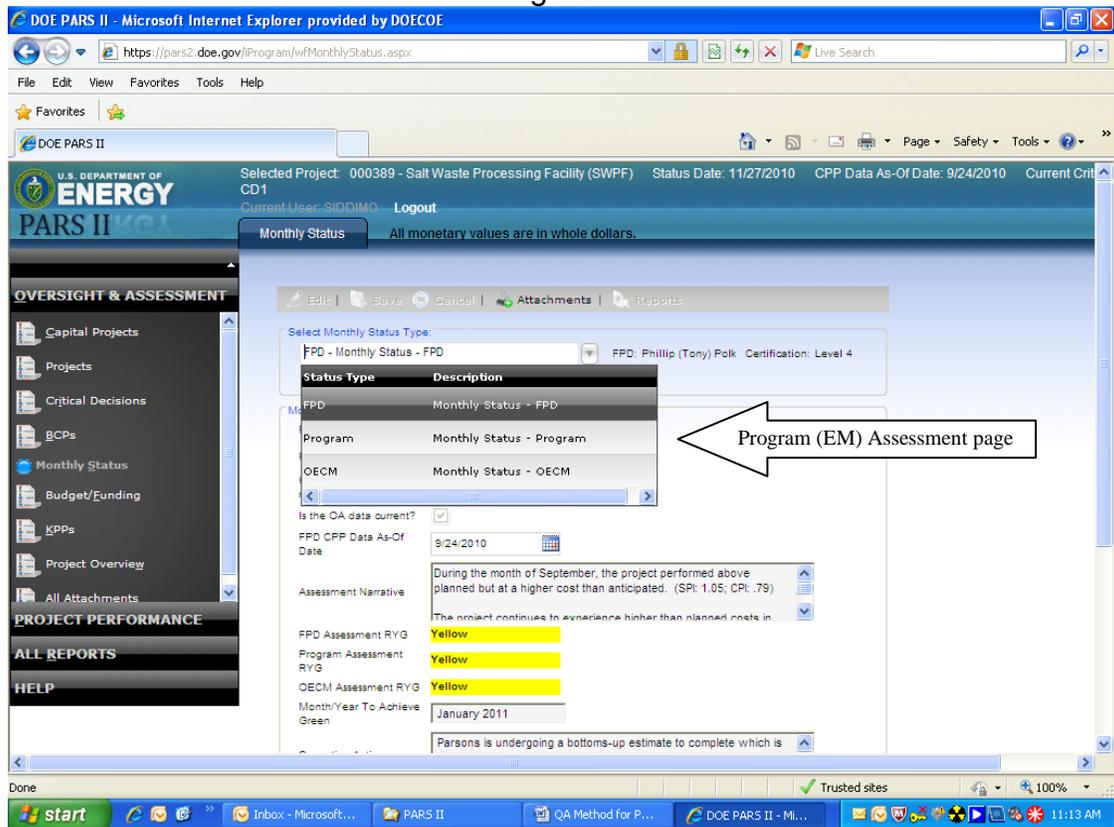

Figure 2
- Select Program Monthly Status Type from drop down, (see Figure 2). Note that Program Monthly Status is referring to EM Monthly Status. Input into this screen is made by Project Management Assistance and Data Management (PMADM) IPT.